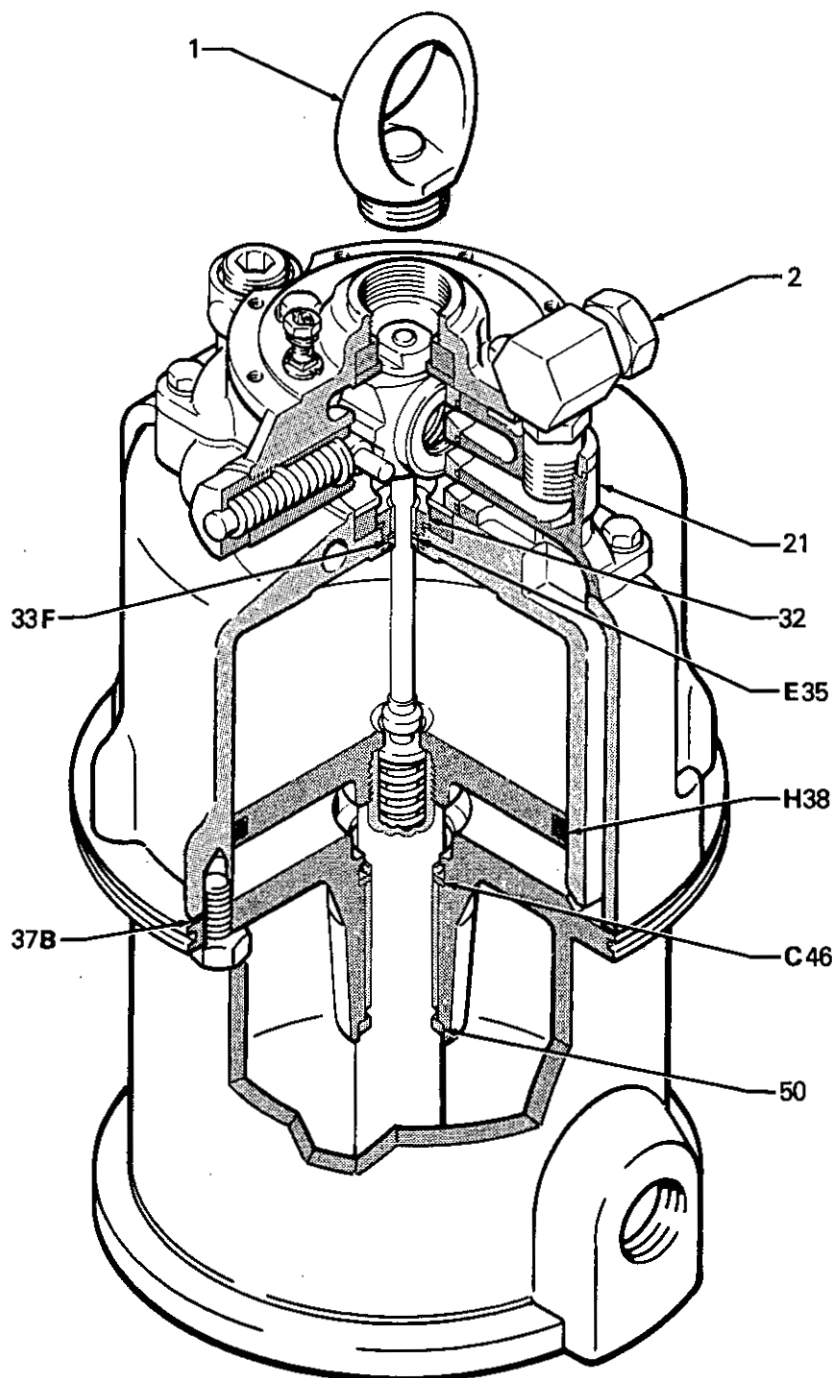

Fig 2
To locate an air leak, shut off the air supply and disconnect the hose. Screw the inlet union (2) out of the air manifold (21). Remove the shield (5). Screw the union back into the manifold. Connect the air hose and turn the air on. Use the checking methods listed in the Check Chart, below, to find where the air is leaking. Refer to Fig 2.
Grease and install the valve housing hub (31), housing (29), lockwasher (18) and nut (17) on the trip rod. Adjust the hub and nut until 0.031 in. (0.8 mm) of the rod projects, then lock it in place. See Fig 2 on page 5.